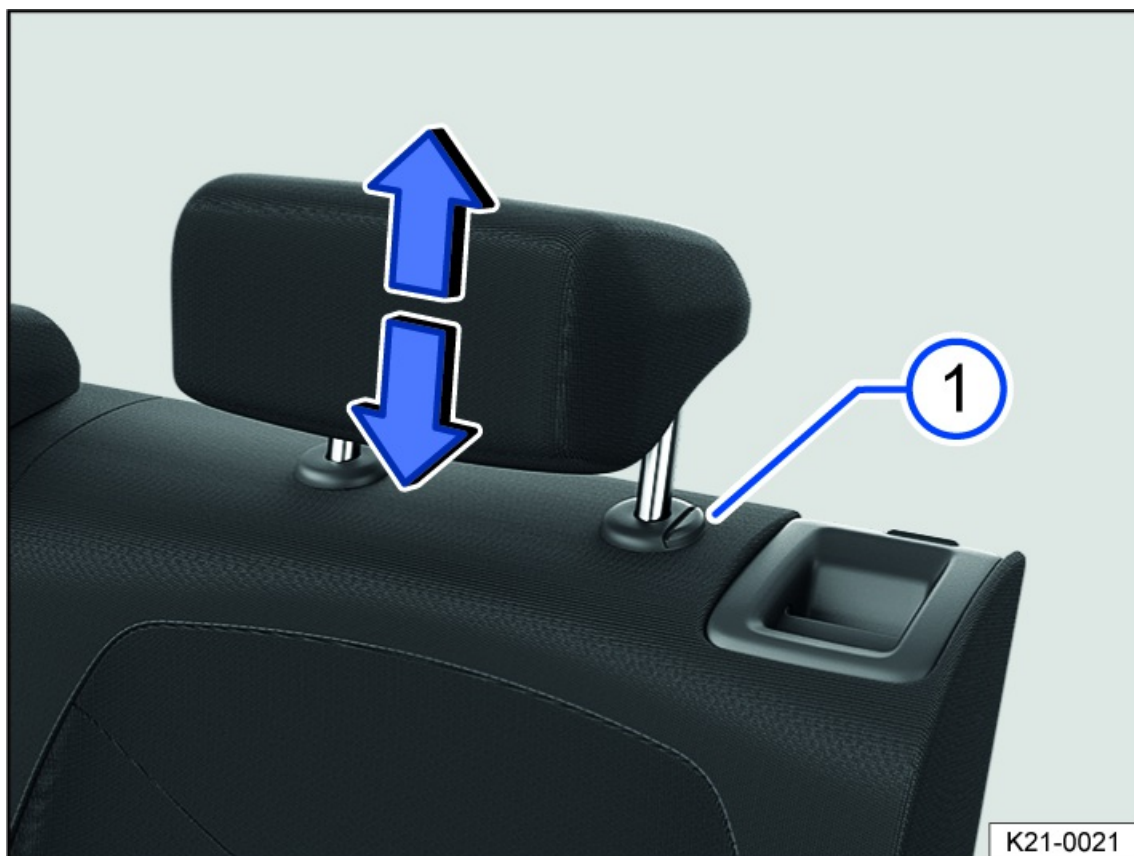

Fig. 62 Adjusting the rear head restraint (general example).
1. If necessary, slide the head restraint upward or downward in the direction of the arrow and when pressing the button. *fig. 62*